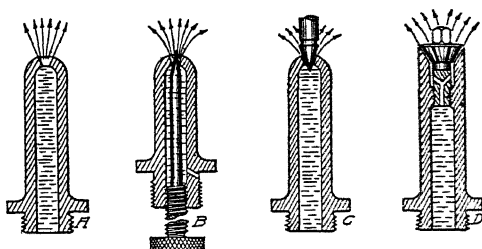

Fig. 26. The Four Usual Shapes of Gasoline Needle Valves and Spray Nozzles
*Needle Valves.* Needle valves—or spray nozzles as they are sometimes called because of the function they perform—constitute an important part of every carburetor or liquid-vaporizing device. It might be thought that so long as there is a hole by which the fuel can enter the vaporizing chamber that is sufficient; yet such is far from the case. In addition to the function of an entering hole, the needle has the additional duty of breaking the fuel up into a fine spray or mist, the particles of which are easily picked up by the inrushing air and as easily converted into a vapor. Therefore, that shape, form, or arrangement which will divide the entering liquid up into the finest particles will be the most efficient. The difference of opinion on this latter point has produced the large number of shapes of nozzle and needle which are now in use. In general, practically all these can be divided into four groups, illustrated in Fig. 26.
Type *B*, Fig. 26, is similar to the first, except that an adjustable pointed needle is added on the inside. This occupies most of the center space, forcing the liquid to pass out in a smaller circular sheet or stream than would be the case with Type *A*, considering equal-sized holes. In addition, the fact that the internal needle valve may be raised or lowered allows this stream to vary greatly, both as to quantity of fuel flowing and the extent to which it is spread out. When the needle is down very low, only its point enters the hole, so that practically the full area of the latter is available, the central needle influencing the column of fuel passing out only to make it hollow in the center.
The third type shown at *C*, Fig. 26, is an inversion of *B* in that the needle is made external and descends from above into the hole
The fourth form, shown at *D*, is like *C* except that instead of a needle resting upon the upper surface of the hole and allowing a continuous hollow stream of fuel to flow, a series of holes break up the column into a number of very much smaller columns, each with its own opening. In this form the central member may be movable or not, while the holes may be set at any angle. Of the examples of this form, every one has the holes placed horizontally instead of inclined to a vertical, as shown in Fig. 26. Of these, two show a combination of *B* and *D*, which is an effective combination.